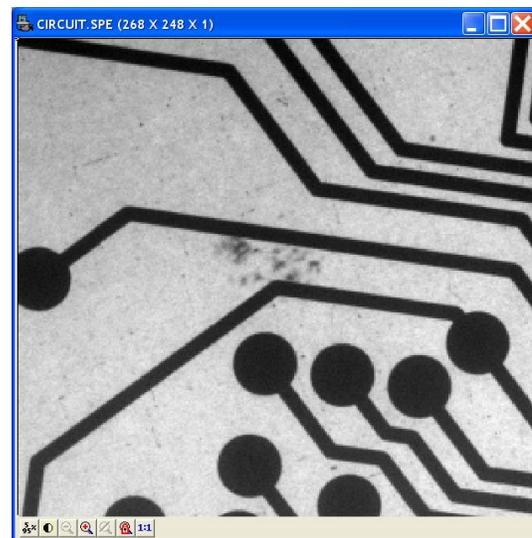

Figure 31. CIRCUIT.SPE Displayed
5. Either double-click on the name of the file you want to open or single-click on the name and then click on the **Open** button. For example, with Image selected, double-clicking on Circuit.spe would open that file, producing the display shown in Figure 31. Note that there are many different ways of controlling how the image will be displayed, as described in Chapter 5.